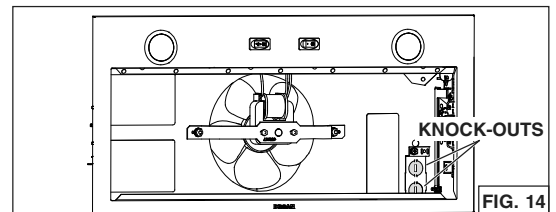

FIG. 14
4. Punch out **one** of the two knock-out holes (grey parts in FIG. 14).